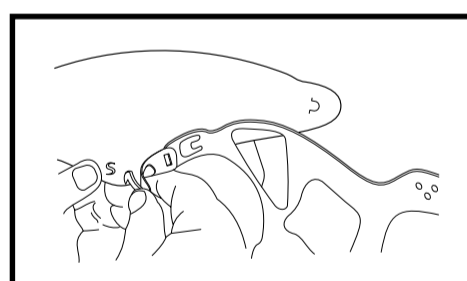

Figure 3
4. Orient the sweatband per Figure 3 and 4 with the white mesh as shown.
5. Insert two plastic arrowheads (on front of headband) into the foam sweatband slots (near the center). (See Figure 3)